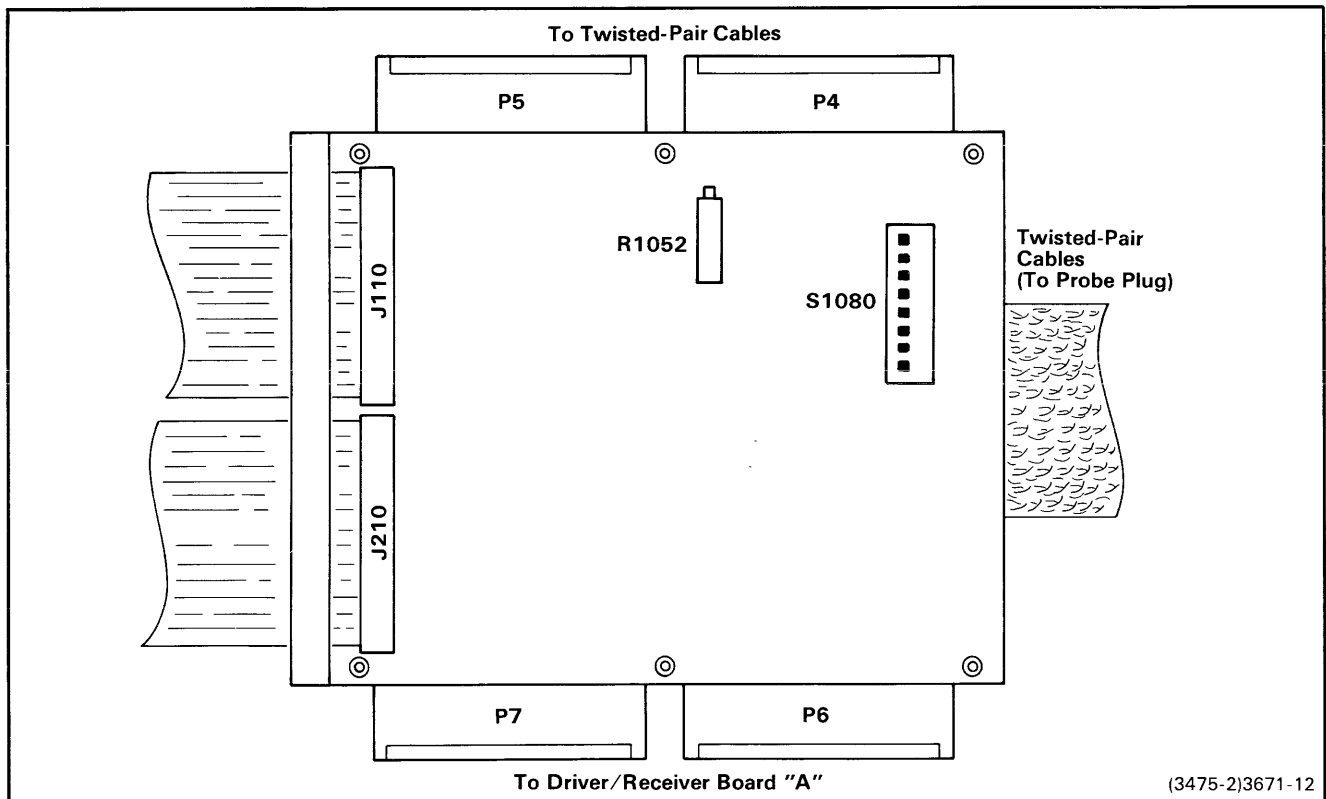

Fig. 4-4. Driver/Receiver board "B"; location of R1052.
17. Variable resistor R1052 is located on the component side of Driver/Receiver board "B", near edge connector P4 (see Fig. 4-4). Adjust R1052 until RA indicates a value of 7F. To increase the value of RA, turn R1052 counterclockwise; to decrease the value, turn R1052 clockwise.